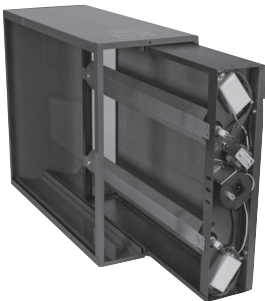

Fig. 3
3. Remove photo-catalytic module. (Fig. 3)